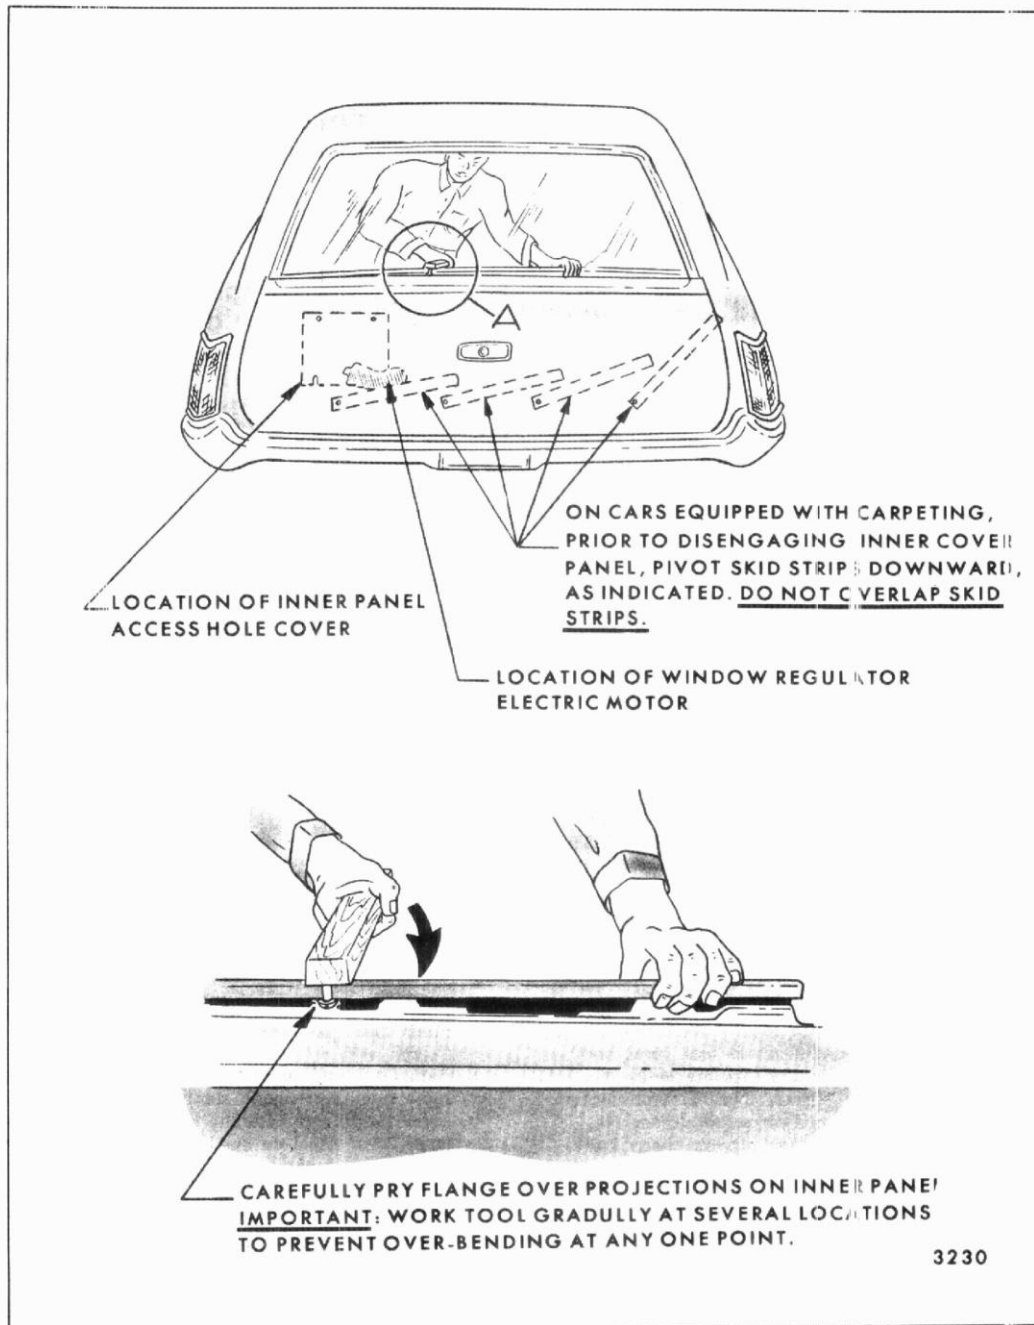

Fig. 9-43-Inner Panel Cover Removal
**CAUTION:** On bodies equipped with carpeting and tail gate skid strips, carefully pivot skid strips downward towards right (passenger) side of car, as indicated by dotted lines in Figure 9-43. Do not overlap skid strips.
4. Using "pry tool", as shown in Figure 9-43, start at right side (passenger's side) of tail gate inner cover panel and carefully pry upper flange of inner cover panel up and forward of projections on tail gate inner panel.